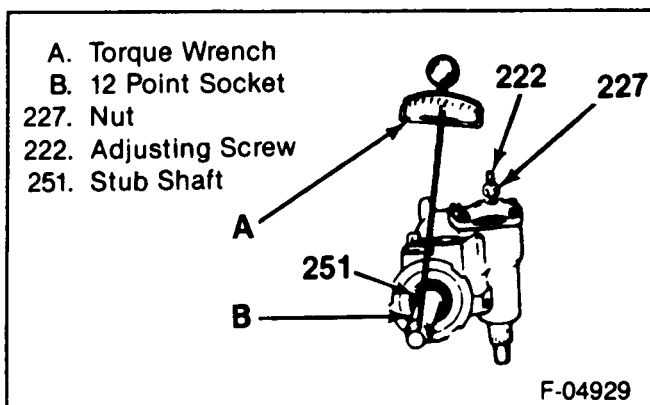

Figure 22—Aligning the Over-Center Preload
Adjust (Figure 22)
- Pitman shaft preload (figure 22).
2. Center the steering gear by turning the stub shaft (251) from right to left and counting the number of turns. Turn the shaft back halfway to the center position.
4. Tighten the adjusting screw (222) until the torque wrench reads 0.6 - 1.2 N·m (6-10 in. lbs.) higher than the reading noted in step "3."